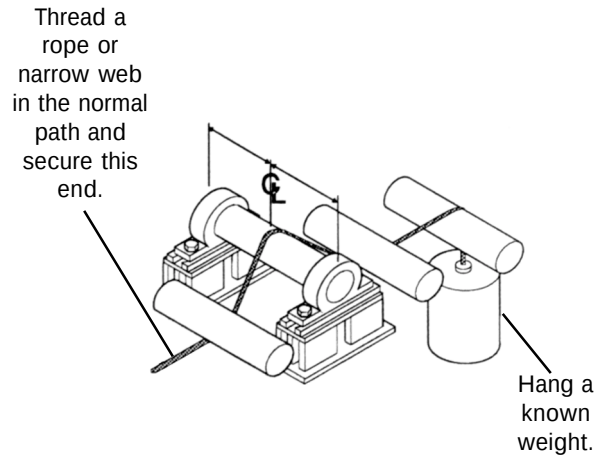

FIGURE 9
2. Thread a rope or narrow web over the Sensor Roll in the normal path. Be sure the rope is at the center of the Sensor Roll. Hang a known weight (within the tension range of the system) on the other end of the rope (See Figure 9).